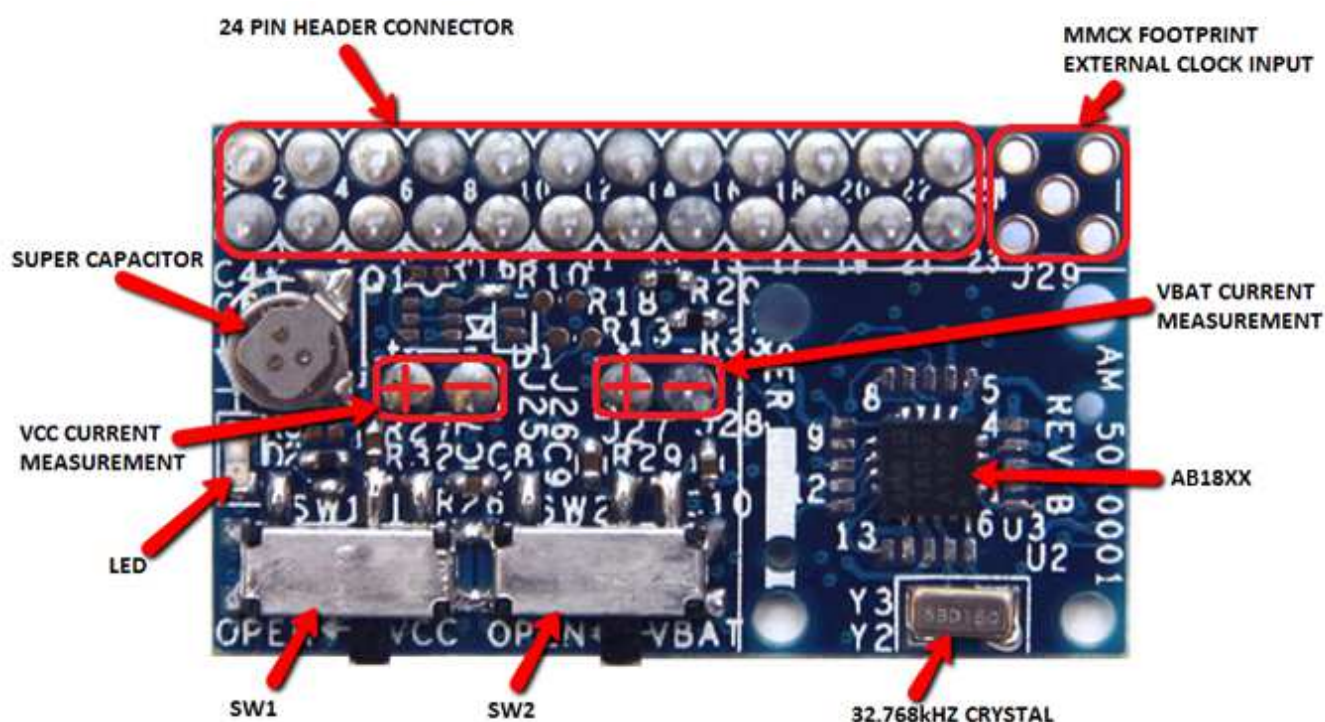
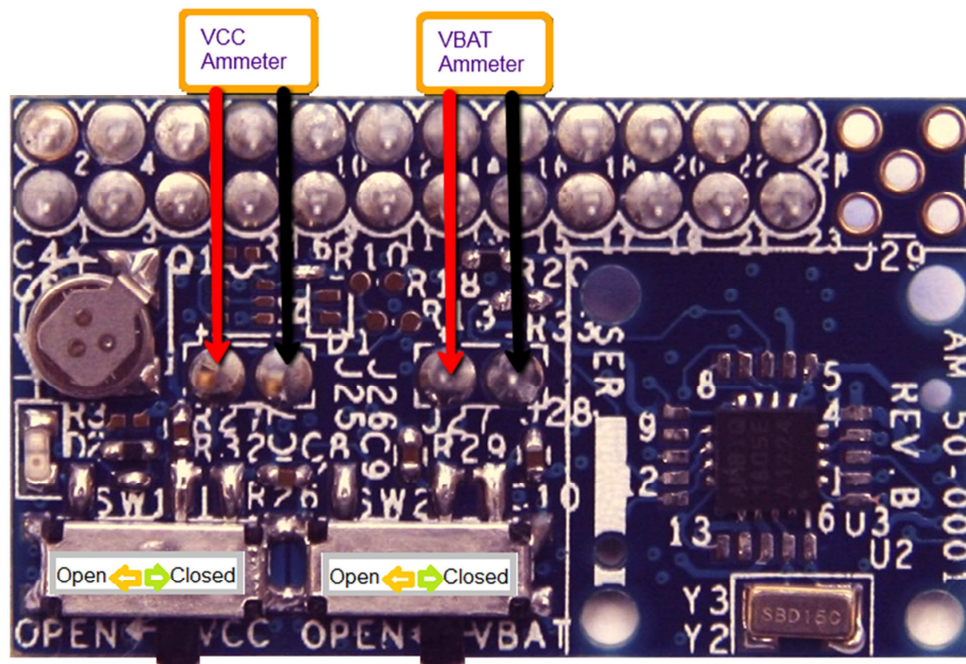

Figure 2 – EVK Board Top Side Components
Figure 7 – VCC and VBAT Current Measurement
Access to all ABX8XX pins is provided by a 24-pin expansion header connector with 2mm x 2mm pin spacing. The EVK board also comes with 2-pin VCC and VBAT current measurement pins as shown in Figure 2.
This section describes key EVK board components and their locations on the top and bottom sides of the board. The top side EVK components are labeled in Figure 2 and are described in Table 1.
The ABX8XX VCC and VBAT supply current can be measured by connecting an ammeter to the VCC and VBAT current measurement pins. The VCC and VBAT current measurement pins and +/- polarity are shown in Figure 2. SW1 is connected across the + and – terminals of the VCC current measurement pins and SW2 is connected across the + and – terminals of the VBAT current measurement pins.
SW1 and SW2 are placed in the “open” position by sliding the switch lever to the left side as shown in Figure 7. They are placed in the “closed” position by sliding the switch lever to the right side.
An external 32.768 kHz clock can be supplied to the ABX8XX device via the MMCX connector footprint shown in Figure 2. The middle pin of this connector footprint connects to the XO pin of the ABX8XX device. An MMCX connector (part number provide in the component list of Table 3 and Table 4) or other can be soldered to these pins to connect to an external frequency generator. The external clock must not exceed either the VCC supply or 1.8V (maximum input voltage), whichever is less.
2. Connect an ammeter in series with the VCC pin on the ABX8XX part. This is done most easily by first connecting an ammeter between the VCC current measurement pins (see Figure 7). Power on the ammeter and set it to a range setting capable of measuring mA or tens of mA. To measure positive current, the ammeter polarity should be connected following the VCC Current Measurement polarity
markers (+/-) shown in Figure 2. Once the ammeter is connected, change the position of SW1 to the open position (see Figure 7).